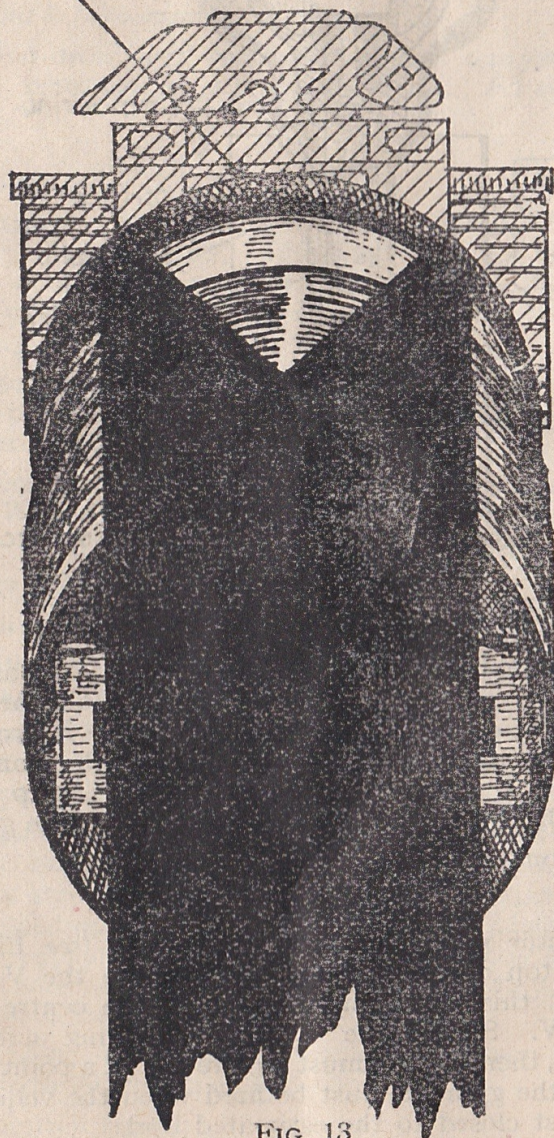

FIG. 13
- i. Instructor explains, using a diagram (see Fig. 13), The top of the grenade should close the V of the sight, this aim being directed at the centre of the A.F.V. Should the vehicle be moving across the front, then the aim must be directed at a point ahead, and the grenade must be fired when the vehicle has almost closed to the estimated lead.